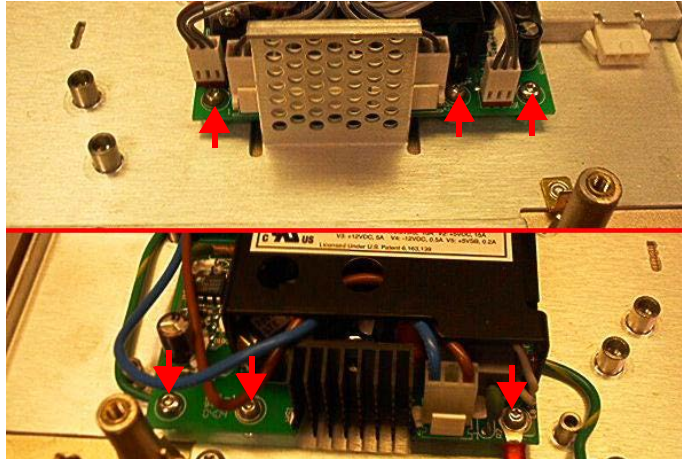

Figure 5-5
- Remove the PSU (Figure 5-5): Use the T10 Torx screwdriver bit to remove the 6 screws attaching the PSU to the top clamshell. Lift and remove the PSU.